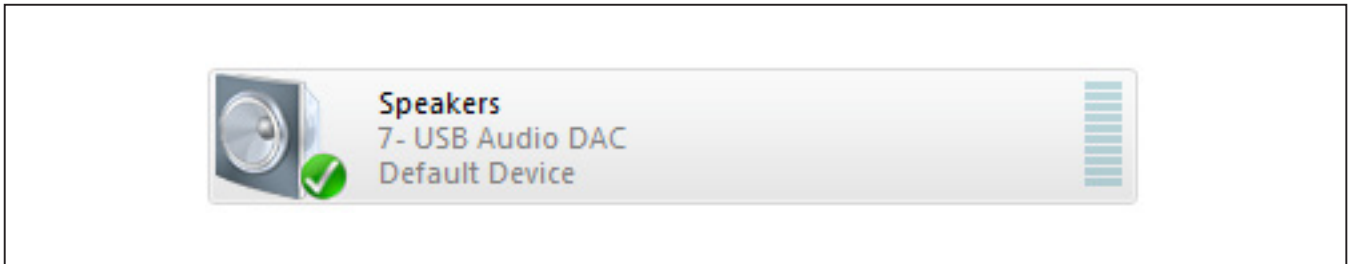

Figure 2. Playback Device
- 15) Open Windows’ **Sound** dialog and select the **Playback** tab. A **USB Audio DAC** item, similar to Figure 2, is added to the list of available playback devices. All audio played through this device is sent to the EV kit.